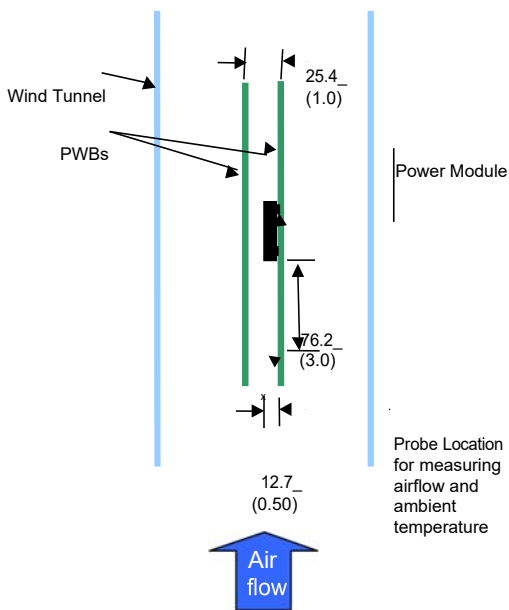
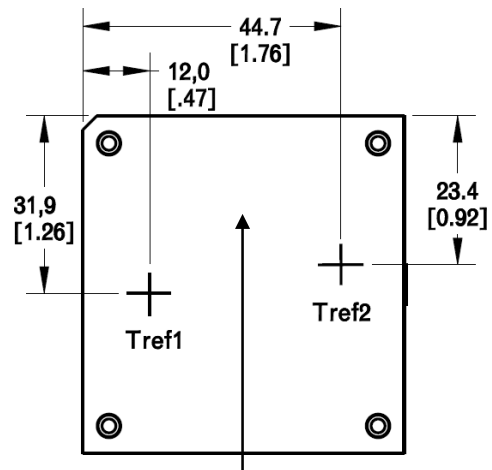

Figure 28. Thermal Test Setup.
Figure 29. Location of hot-spots of the module (T_{ref1} and T_{ref2}).
Considerations include ambient temperature, airflow, module power dissipation, and the need for increased reliability. A reduction in the operating temperature of the module will result in an increase in reliability. The thermal data presented here is based on physical measurements taken in a wind tunnel. The test set-up is shown in Figure 28. The preferred airflow direction for the module is in Figure 29.
The thermal reference points, T_{ref1} and T_{ref2} used in the specifications are also shown in Figure 29. For reliable operation the temperatures at these points should not exceed 98°C. The output power of the module should not exceed the rated power of the module ($V_{o,set} \times I_{o,max}$).